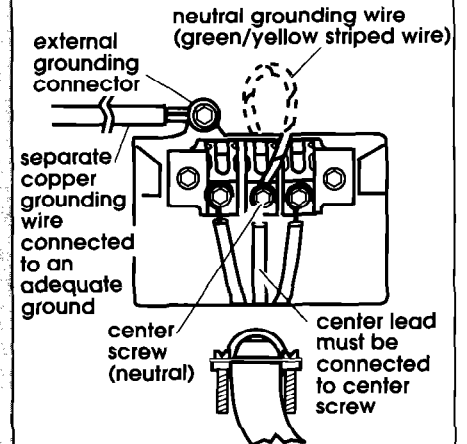

Figure 13
- 3a. Remove the neutral grounding wire (green/yellow striped wire) from external grounding connector. Remove center terminal block screw and fasten neutral grounding wire to screw (see Figure 13).